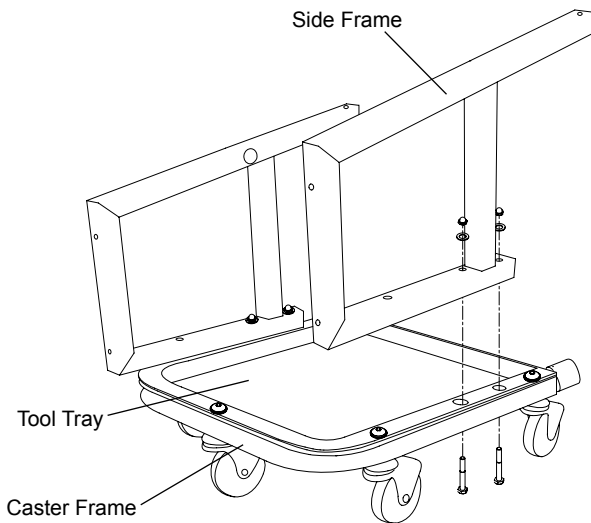

Figure 2 - Assembling tool tray and casters
2. Attach two creeper Side Frames to Caster Frame with two M8 x 60 Hex Head Bolts, two washers and two corn nuts each (Fig 2).